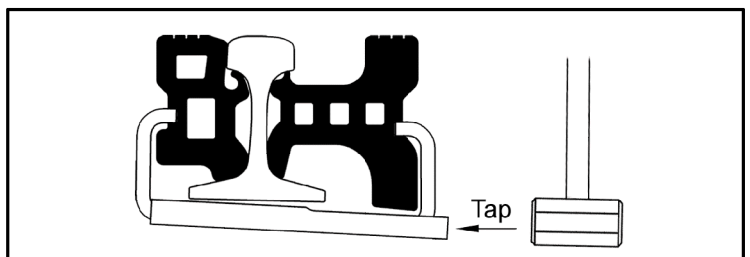

Figure 6
- 6 Using a sledge hammer, tap sliding pipe towards the rail until it stops (Fig. 6)